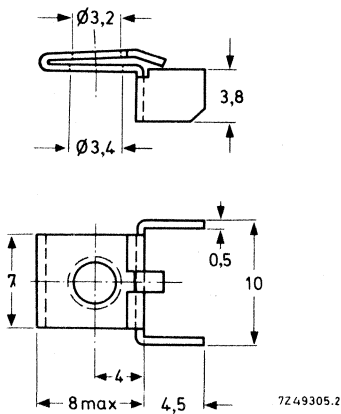

Fig. 5 Cadmium plated steel mounting bracket
- cadmium plated steel bracket, catalogue number 4332 026 06540 (Figs 5 and 6).